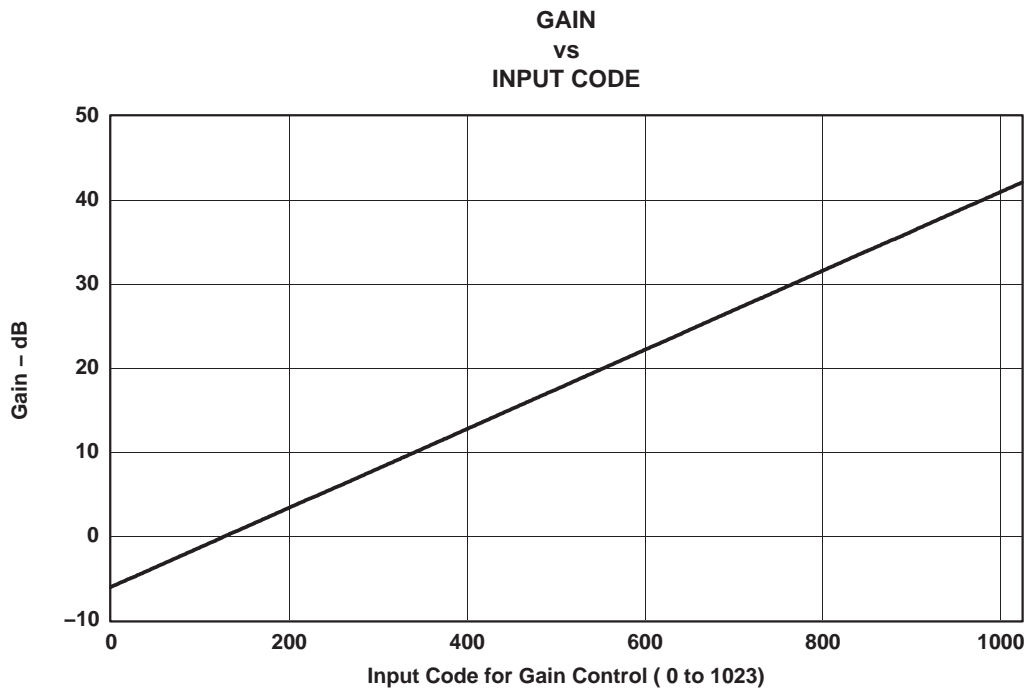

Figure 2. The Characteristics of PGA Gain
Figure 2 shows the characteristics of the PGA gain. The PGA provides a gain range of  $-6$  dB to 42 dB, which is linear in dB. The gain is controlled by a digital code with 10-bit resolution, and it can be set through the serial interface, refer to the *serial interface* section for details. The default value of the gain control code is 128 (PGA gain = 0 dB).
**G[9:0]: The Characteristics of PGA Gain** (refer to Figure 2)